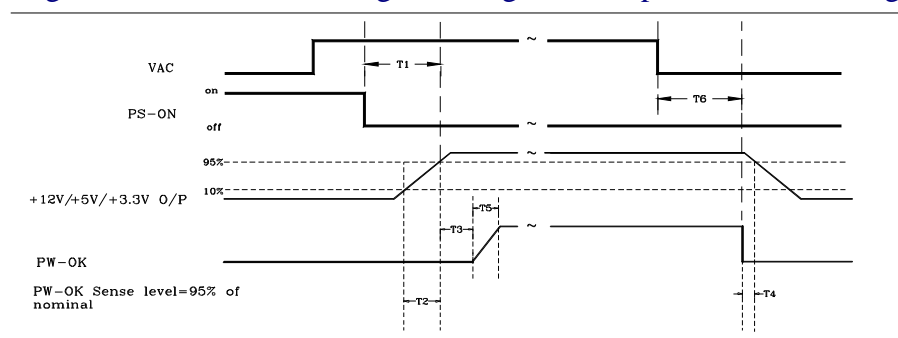

Figure 2. PS-OK Timing Sequence
Figure 2 is a reference for signal timing for main power connector signals and rails.
4.2 Hold up time(T6 of figure 2.)